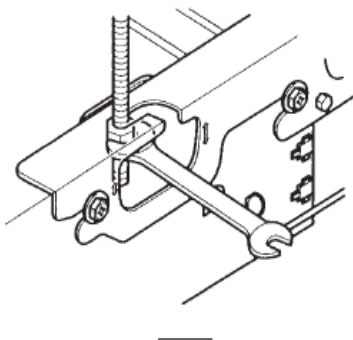

Figure 1-2-5
- ◆ Adjust the height by turning the nut with a spanner. Insert the spanner from the hanger bracket opening. (Refer to Figure 1-2-5)